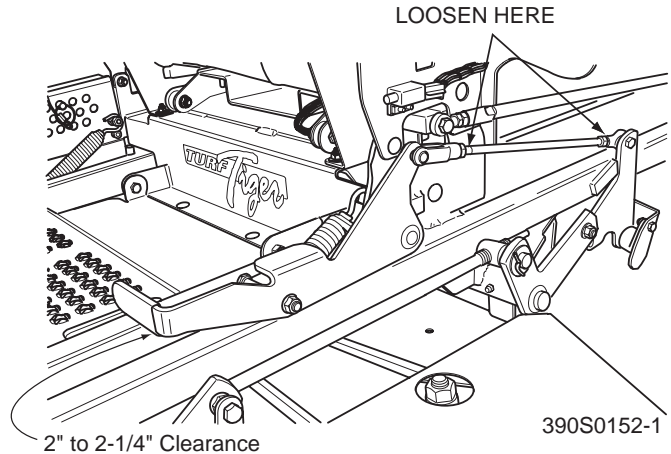

Figure 6-1 Brake Adjustment
2. With the brake lever in the disengaged position, check the distance between the top of the frame tube and the bottom of the brake handle. The distance should be 2" to 2-1/4" (See Figure 6-1).
3. If the distance is not at the specified measurement, adjust by loosening the jam nuts at both ends of the brake control rod and turning the rod until the proper distance is achieved. (See Figure 6-1). Tighten the jam nuts.